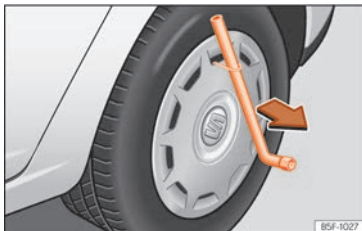

Fig. 40 Remove the wheel cover.
- Insert the box spanner through the hook, rest it on the tyre and remove the wheel trim » **Fig. 40**.